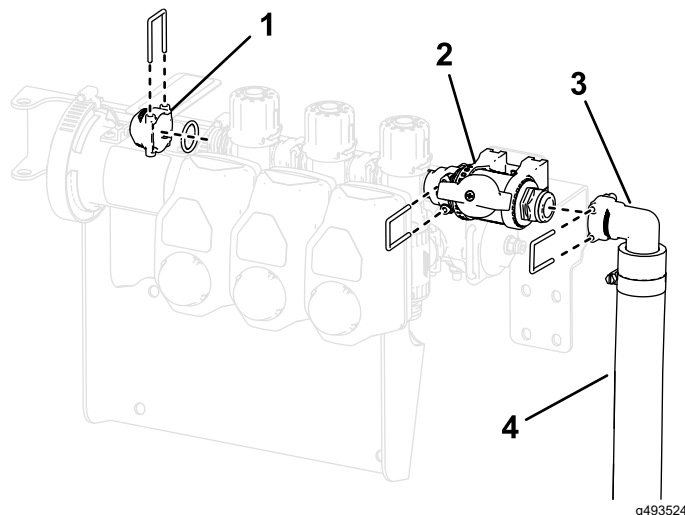

Figure 22
7. Secure the control valve assembly to the boom valve with the previously removed O-ring and retainer as shown in Figure 22.
8. Install the cap (1/2 inch), O-rings, fitting, and hose assembly onto the control valve using the retainers previously removed as shown in Figure 22.